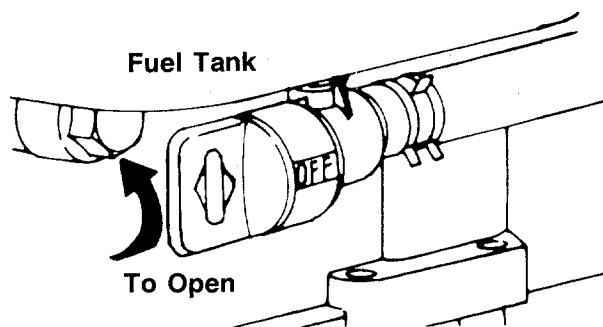

FIGURE 13.—Model 506R
2. **Model 506R only:** Open fuel shut-off valve. See figure 13.